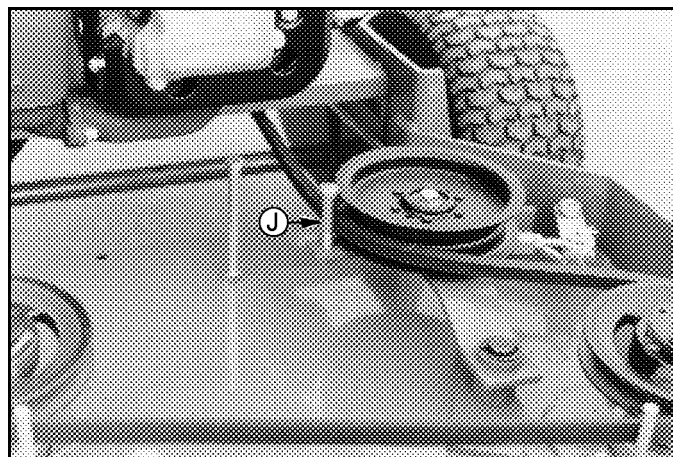

Figure 6
- c. Remove the nut and the cap screw which serves as a belt guide and is mounted in the idler pulley arm. See Figure 6.